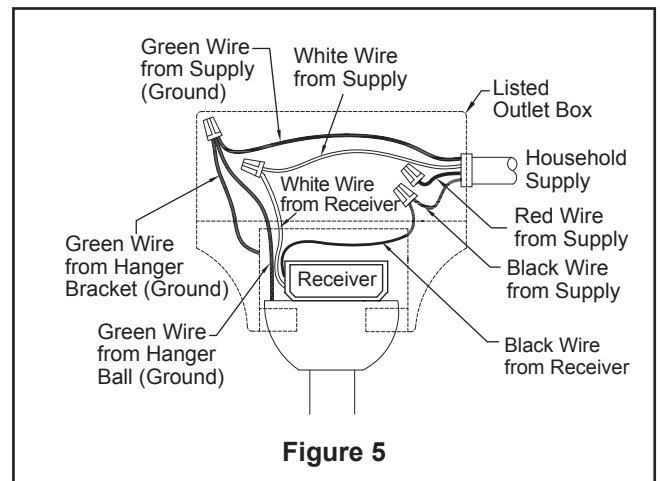

Figure 5
5. Route wires and safety cable through motor coupling cover, canopy screw cover and ceiling canopy. (Figure 5)
4. After connections have been made, the wires should be spread apart with the grounded conductor and the equipment-grounding conductor on one side of the outlet box and the ungrounded conductor on the other side of the outlet box, then turn leads upward and carefully push leads into the outlet box, with the white and green leads to one side of the box and the black leads to the other side. (Figure 5)
5. Assemble the light kit to the light plate assembly using the two key slots. Replace the screw removed in Step 3 and secure all three screws. (Figure 5)
- 5.** Remote functions: (Figure 5)